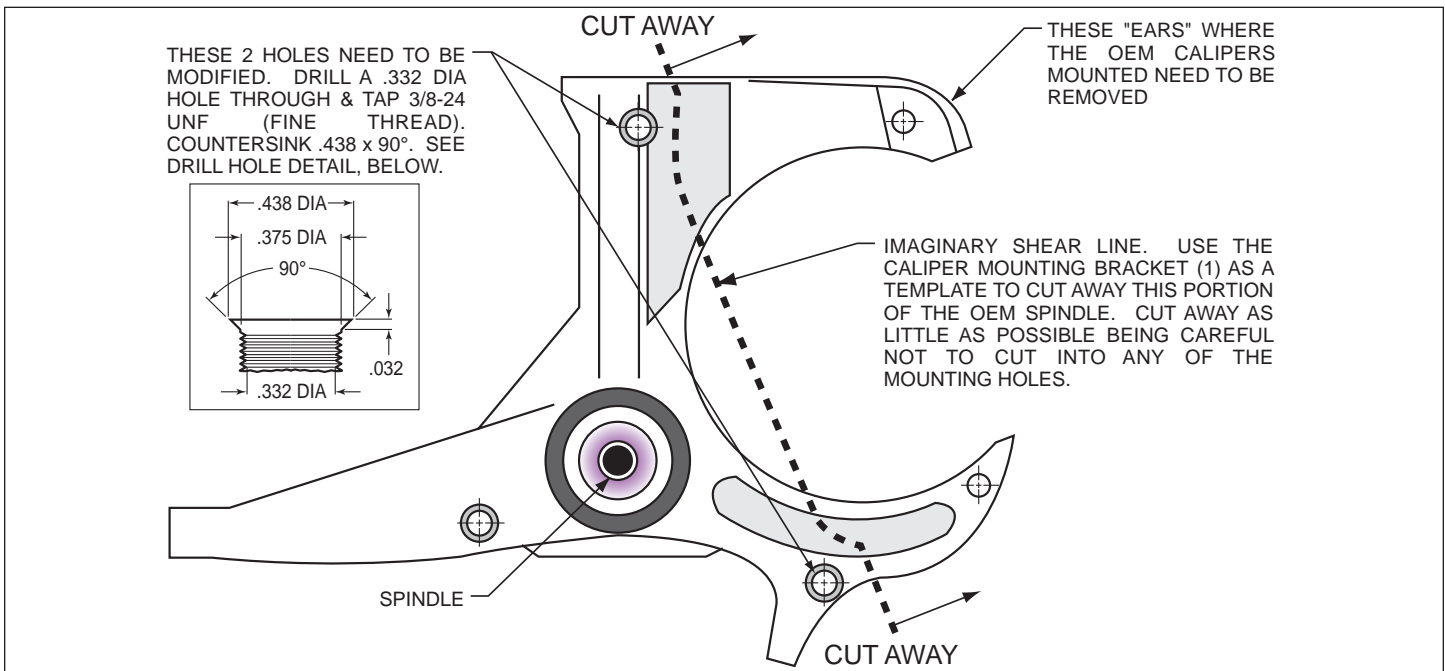
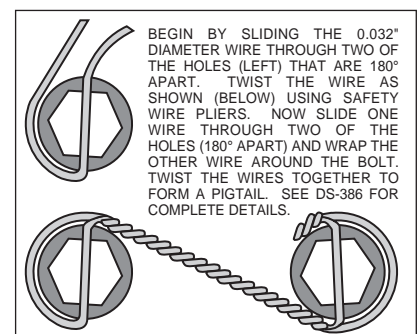

Figure 1. Steering Arm / Spindle Modifications
Figure 4. Safety Wire Diagram
These modifications should be performed by a qualified machinist. Refer to Figure 1 on the following page as necessary (numbers in parenthesis refer to the parts list on page three). Only one view of the steering arm/spindle is shown, but the modifications need to be performed on both steering arm/spindles.
The two stock holes that will be used to mount the caliper mounting bracket (1) need to be modified (figure 1). Drill a .332 diameter hole through both holes, then tap 3/8-24 UNF (fine thread). Countersink the holes to .438 x 90°. The “ears” that protrude to form a “C” shape need to be removed to facilitate the installation of the Wilwood caliper (22). Using the caliper mounting bracket (16) as a template, mark two cut marks on the steering arm. Remove as little as necessary from the “C” shape, being careful not to cut away any of the mounting holes required to bolt on the caliper mounting bracket (1).
- Pack the large inner bearing cone (5) with high temperature disc brake bearing grease (available from your local auto parts store) and install into the backside of the hub (4).
- Install the grease seal (6) by pressing into the backside of the hub (4).
- Pack the small outer bearing cone (12) with high temperature disc brake bearing grease and install into front side of the hub (4). Slide the hub assembly (4, 5, 6 and 12) onto the spindle. Secure using spindle washer (13), stock adjusting nut, and nut locking device. Adjust wheel bearing pre-load per Original Equipment Manufacturer (OEM) specifications.
- Install the O-ring (14) and the dust cap (15) into the hub (4). **NOTE:** O-ring (14) friction will not allow cap (15) to unscrew on its own.
- With the larger I.D. side of the rotor (7) facing away from the hat (8), bolt rotor (7) to hat (8) through the backside of the rotor using washers (9) and bolts (10). Using an alternating sequence, apply red *Loctite*® 271 to the threads and torque bolts to 155 **in-lb**. For an added measure of security, the bolts may be safety wired using standard 0.032 inch diameter stainless steel safety wire as shown in Figure 4. Please refer to Wilwood's data sheet DS-386 (available at [www.wilwood.com/Pdf/DataSheets/ds386.pdf](http://www.wilwood.com/Pdf/DataSheets/ds386.pdf)) for complete safety wire installation instructions.
- Slide the rotor/hat assembly over the studs (3) in the hub (4) taking care to align the small countersunk holes in the hat (8) with the small threaded holes in the hub (4). Install three flat head socket head screws (11) through the small holes in the hat (8) and torque to 85 **in-lb**. Check to be sure the hat seats squarely against the hub face.
- NOTE:** Please reference the caution statement at the beginning of the assembly instructions. The caliper mount brackets (16) should be installed first with clean, dry threads on the mounting bolts (17). Place sleeve (19) into the holes on the radial mount caliper bracket (16). Install the radial mount caliper bracket (16) on the backside on the flat caliper bracket (1) by sliding bolt (17) through washer (18) and through the bracket holes. Place spacer (20) and shim washer (21) between the two brackets and screw bolt (17) into insert nut on the flat caliper bracket (1). Finger tighten bolt (17). Use one thin shim (21) between the two brackets (1 and 16) during initial trial fitting.
- NOTE:** This kit contains distinct right and left hand calipers that must be mounted in a specific direction, as described below. Lubricate the caliper mounting studs (23) with lightweight oil. Initially place two .030" thick shims (25) and spacer (24) on each stud as shown in Figure 1. Mount the caliper (22) onto the bracket (16) using lock nuts (27) and washers (26), Figure 1. Ensure that the caliper is mounted so that the largest pistons are at the rotor exit end of the caliper, in relation to the direction of rotor rotation. Temporarily tighten the lock nuts.
- View the rotor (7) through the top opening of the caliper (22). The rotor (7) should be aligned in the center of the caliper (22). If not, adjust the radial mount caliper bracket (16) by using shims (21 and/or 29) placed between the two brackets (1 and 16). Add as many shim washers (21 and/or 29) as necessary to achieve the correct alignment. Always use the same amount of shims on both the top and bottom radial mount caliper mounting bolts (17). Finger tighten and recheck alignment, adjust as necessary. Apply red *Loctite*® 271 to bolt threads (17) and torque to 47 ft-lb.